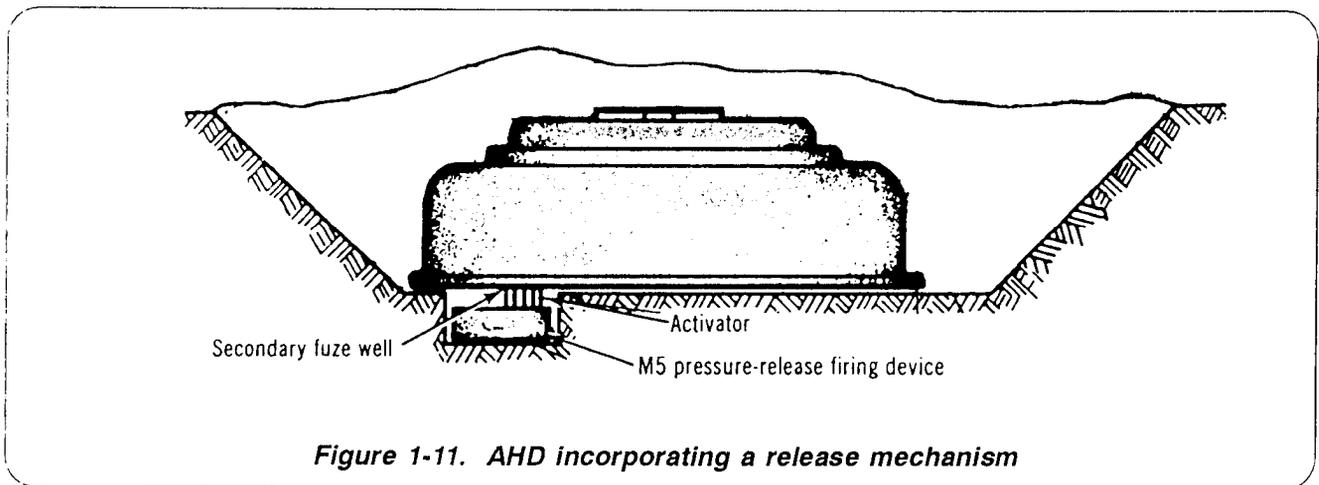

Figure 1-11. AHD incorporating a release mechanism
- ★ Some mines are provided with extra fuze wells, making it easier to install AHDs (Figure 1-11). The AHD may also be placed beneath the mine (unattached to the mine) (Figure 1-12). Mines with AHDs are sometimes incorrectly called *booby-trapped* mines.